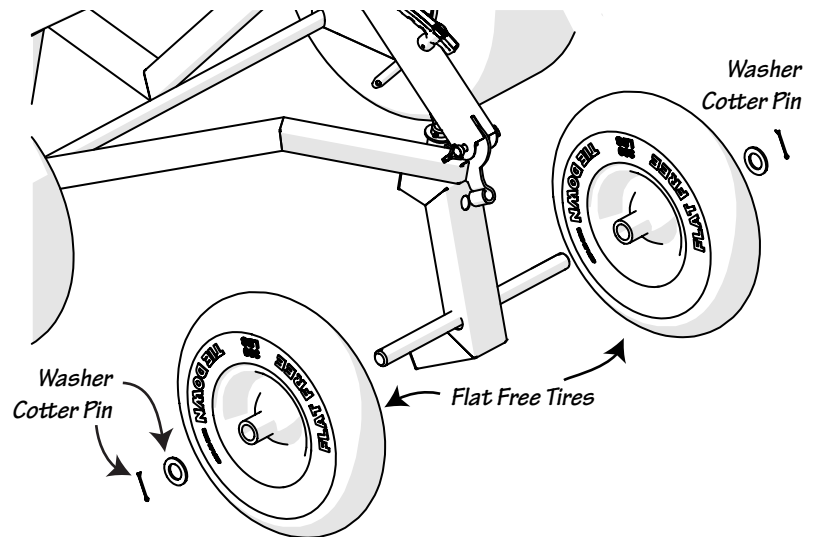

Fig. 3-2
3. Insert the wheel hubs over the axle. slide the washer over the axles and secure with the cotter pins. As shown in Fig. 3-2.